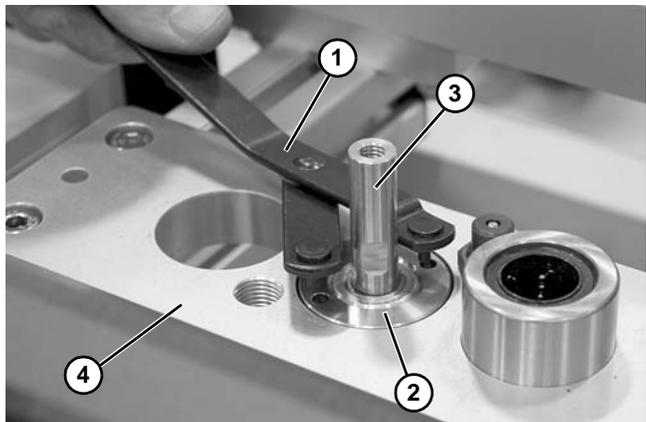

Figure 128
- Using a spanner wrench (**Figure 128, item 1**), loosen and remove nut (**Figure 128, item 2**).
- Remove cylinder (**Figure 128, item 3**) from mounting plate (**Figure 128, item 4**).